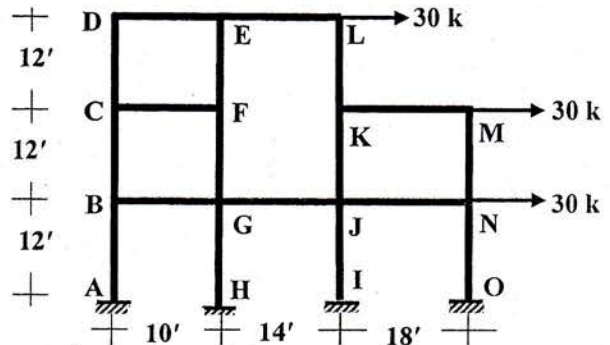

Figure 2
- [2] Use the Cantilever Method to determine all the unknown forces and moments at joint J of the frame shown in Figure 2. Assume all the columns have same cross-sectional area. (20)